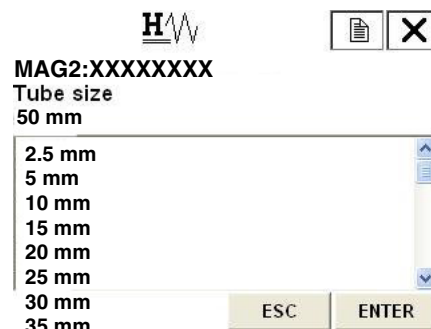

Figure 77.
Figure 77 is then displayed.
2. Once the display as shown in Figure 77 appears, move the arrow key up or down to select a flowtube diameter. After making a selection, press F4 (ENTER). If F3 (ESC) is pressed here, the selection is canceled and the display returns to the flowtube config menu.